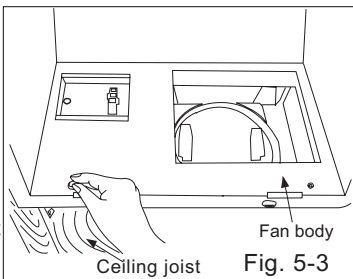

Fig. 5-3
5. Secure the adaptor and fan body using one thumb screw as shown in Fig.5-3.